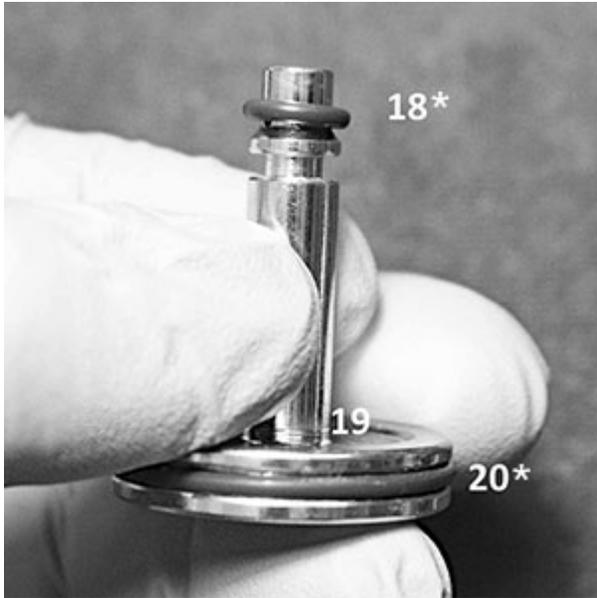
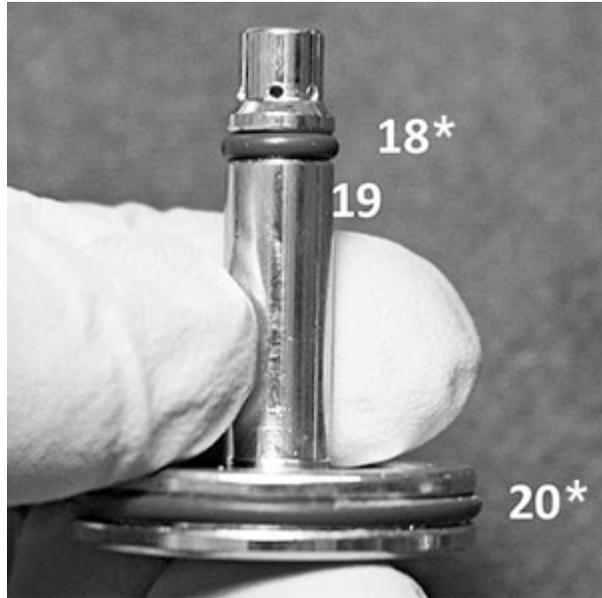

Fig. 21
Fig. 22
2. Next, lubricate and install the O-ring (18\*) on the Piston, being careful to not damage it on the edge of the Piston - Fig. 21. Ensure the O-ring is seated in the groove - Fig. 22.